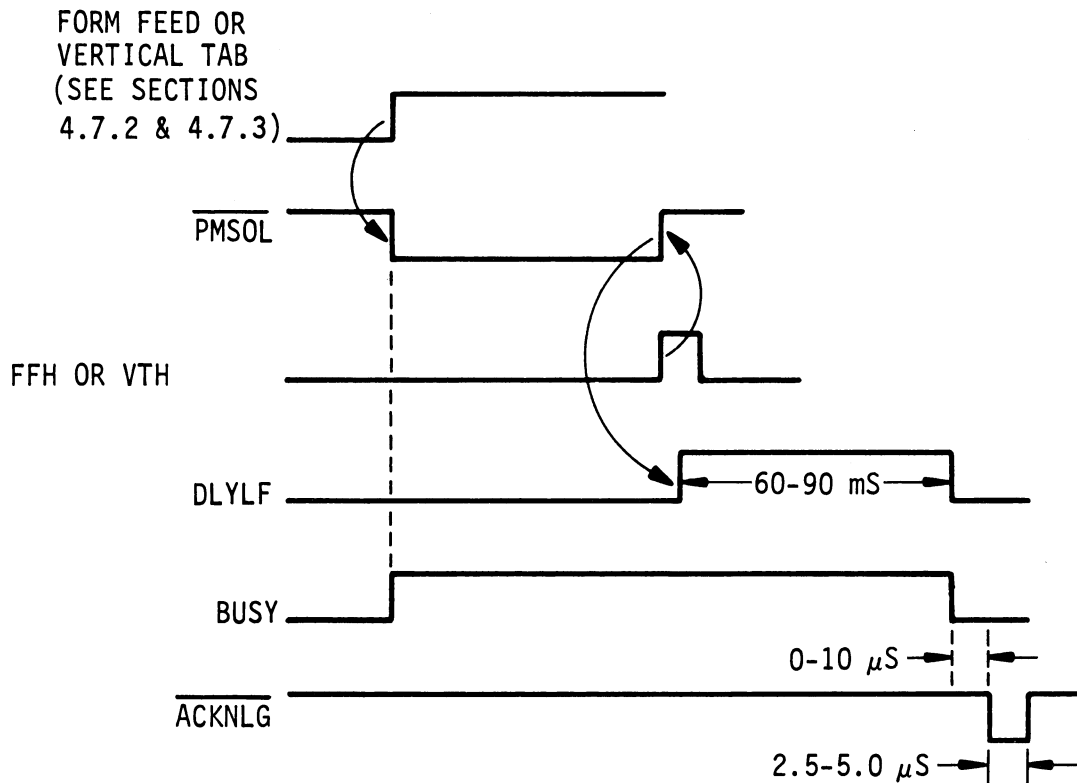

Figure 4-10. FORM FEED AND VERTICAL TAB. TIMING
4.7.2 FORM FEED (Figure 4-10)
4.7.3 VERTICAL TAB (Figure 4-10)